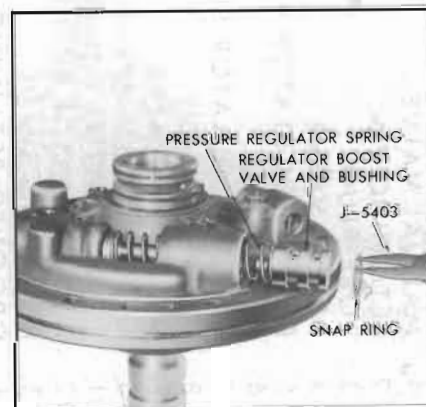

Figure 74-616
3. Compress the regulator boost valve bushing against the pressure regulator spring and remove the snap ring, using J-5403 pliers. See Figure 74-616.